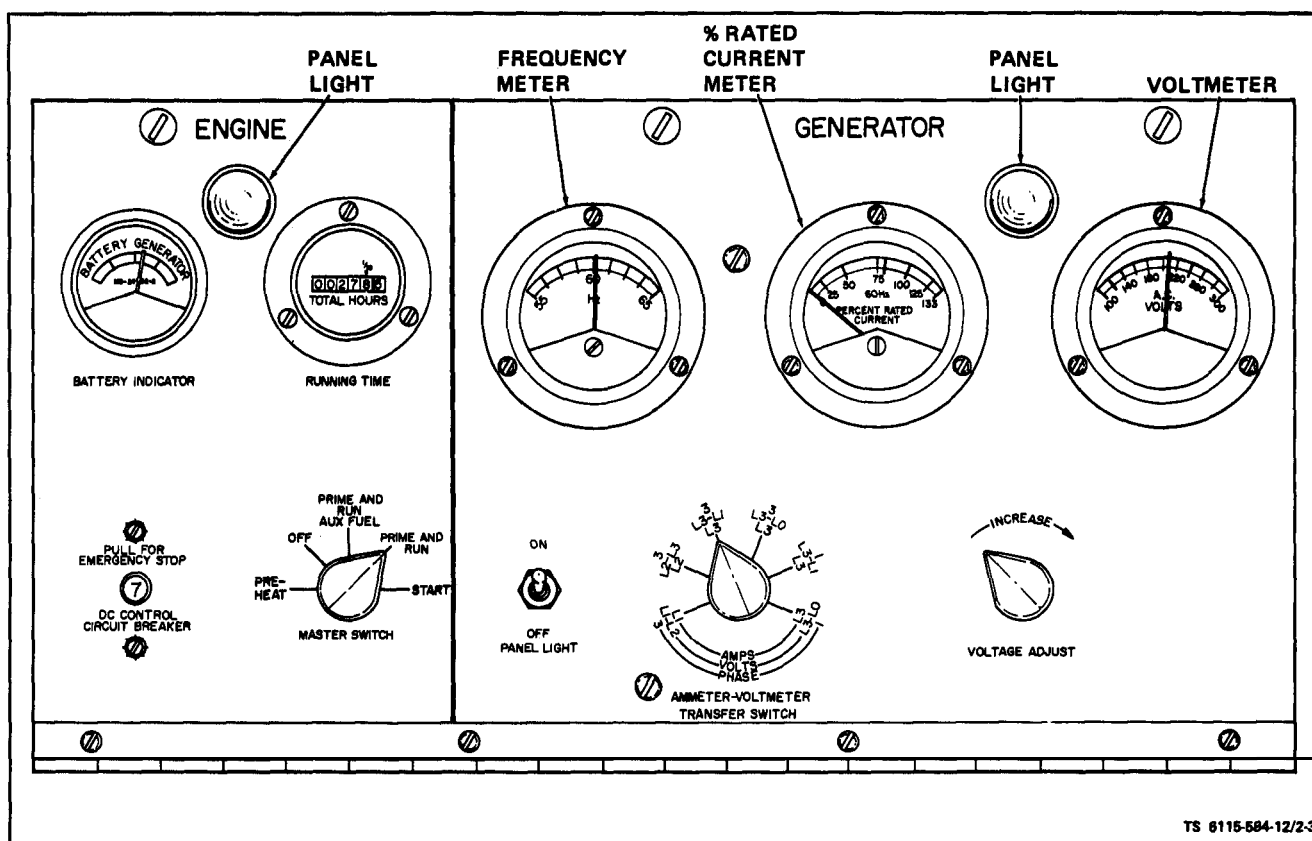

Figure 2-3. Starting Procedure
c. Table 2-1 describes the Generator Set controls and instruments (see figure 2-3).
2-4. STARTING GENERATOR SET (SEE FIGURE 2-3).
h. Place ammeter-voltmeter transfer switch in position to check percent rated current for either 1-phase 120 V. output, 1-phase 120/240V. output, or 3-phase 120/208 V. output. See table 2-1 and figure 2-3.
- Emergency Stop. To stop Generator Set in an emergency, pull out DC control circuit breaker (see figure 2-3).